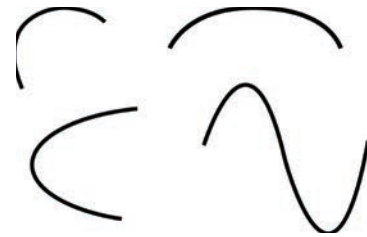

Fig. 9.36 Curves of different shapes
- A regular curve is a line, which follows the curvature of one specific circle as shown in Fig. 9.36.